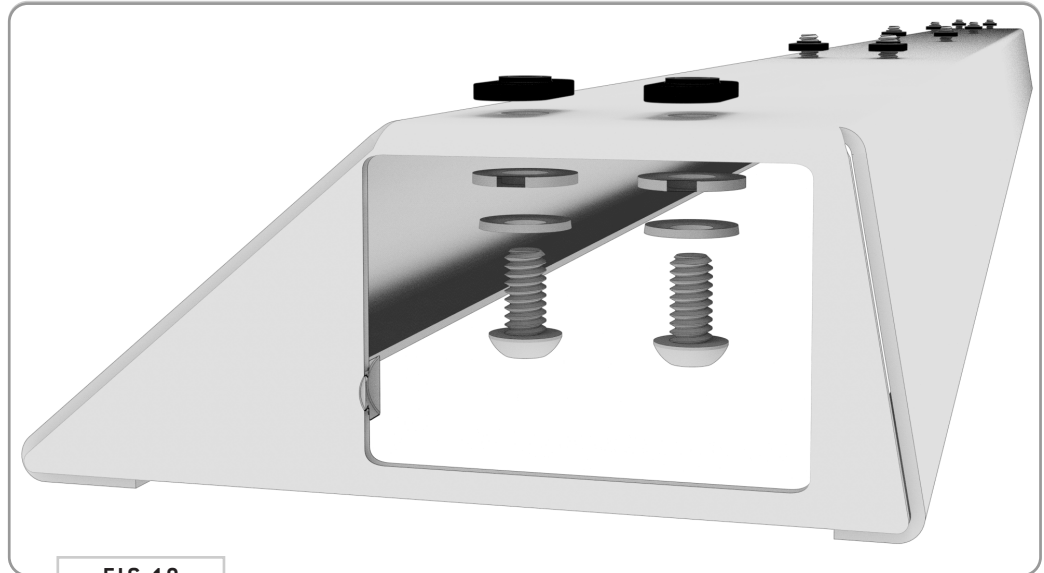

FIG 18
6.1 Spoiler Assembly: Stack a 1/4-20" x 0.5 Button Head Screw, 1/4" Belleville Lock Washer and 1/4" Flat Washer as shown in FIG 18 and insert into the ten available top holes of the **Rear Spoiler**. Loosely assemble using a **T-Nut**. You'll only want to screw the **T-Nuts** on a little in order to provide clearance for the next step.